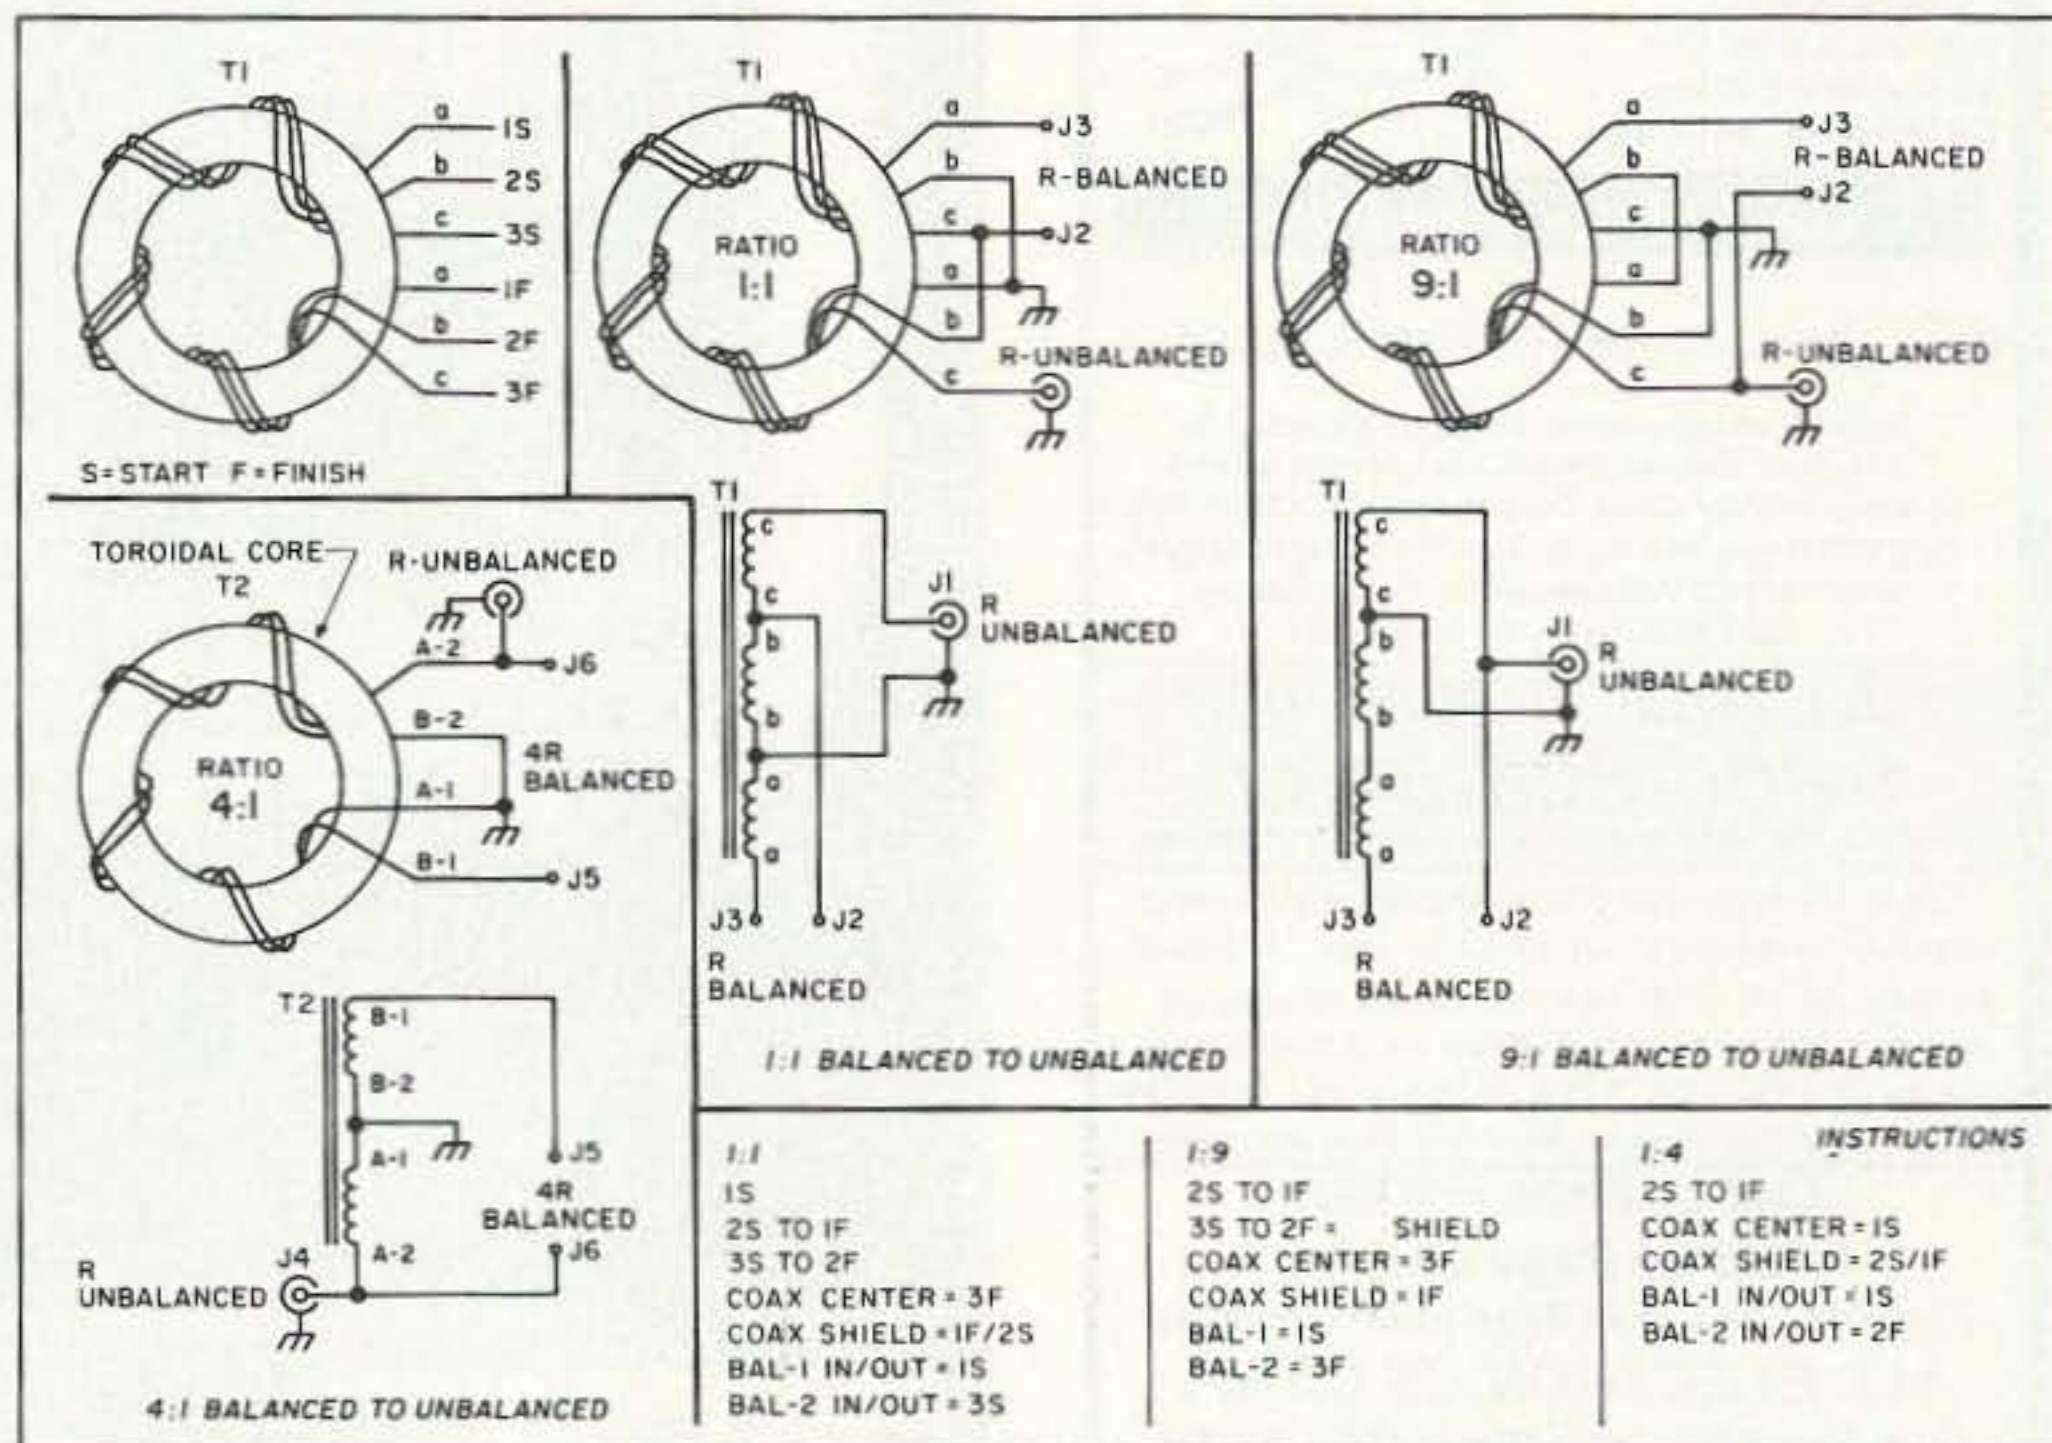

Figure 1. Balun winding instructions.
4. Configure the windings for the desired ratio as outlined in Figure 1.